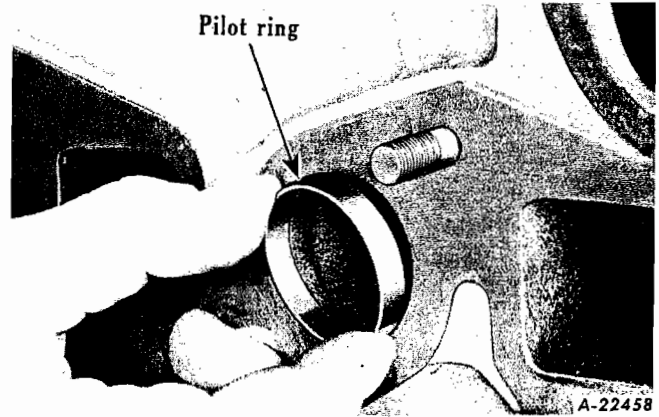
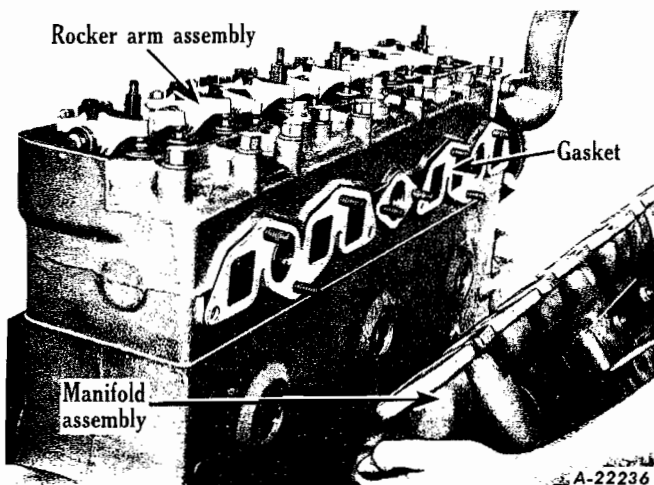

Fig. 28
Fig. 27
1. After removing eight nuts, eight flat washers, four capscrews and three bolts from exhaust flange, remove both intake and exhaust manifolds as a unit (Fig. 27). Remove two manifold pilot rings (Fig.28). NOTE: Let manifolds cool before starting above operations; this will help to prevent manifold warpage.